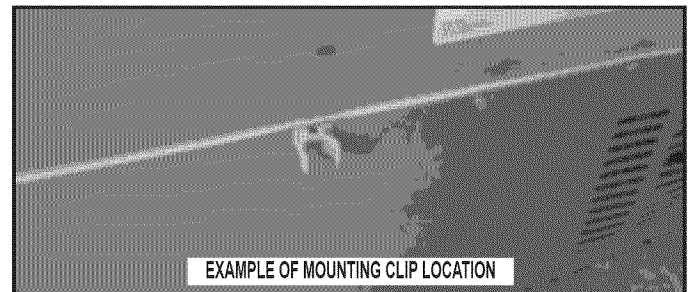

FIGURE 2
3. For bottom mount and side-by-side platforms, locate and remove one of the center screws holding the machine compartment cover in place. (If not available, locate a similar location on the product.) See Figure 2.